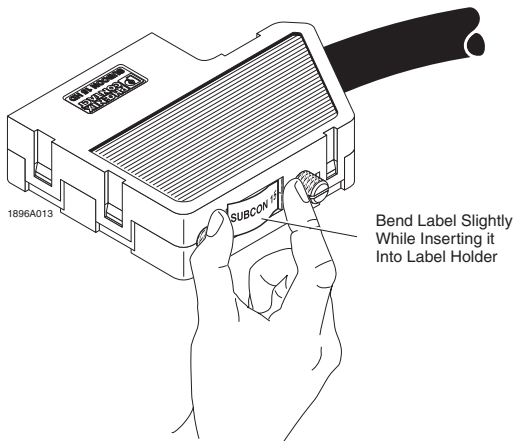

Figure 13. Inserting Connector ID Label
2. Using a permanent marker, mark the label with the appropriate connector information. Allow marker ink to dry. Then carefully bend the label and insert it into the label slot in the back of the connector. See Figure 13.